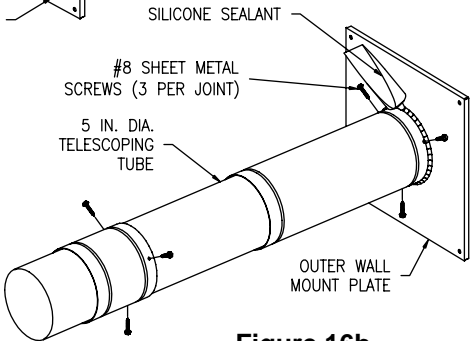

Figure 16b
Join the five (5) inch (12.7 cm) diameter telescopic tubes by inserting the small end of a tube into the large end of another, one (1) inch (2.5 cm) (or until seated). Drill three (3) 1/8 inch diameter holes, 120° apart, through each joint where the five (5) inch (12.7 cm) diameter telescopic tubes are joined. At this time, DO NOT drill holes where the small and large sections of the five (5) inch (12.7 cm) diameter telescopic tubes overlap. Fasten each joint with three (3) #8 sheet metal screws (supplied). Extend the joined five (5) inch (12.7 cm) diameter telescopic tubes to their maximum length. Place the large end of the joined five (5) inch (12.7 cm) diameter telescopic tubes over the collar on the outer wall mount plate. Drill three (3) 1/8 inch diameter holes, 120° apart, through the joined five (5) inch (12.7 cm) diameter telescopic tubes into the collar on the outer wall mount plate. Fasten with three (3) #8 sheet metal screws (supplied). Using the supplied RTV Silicone sealant, apply a sufficient amount to seal the joint. (See Figure 16b).